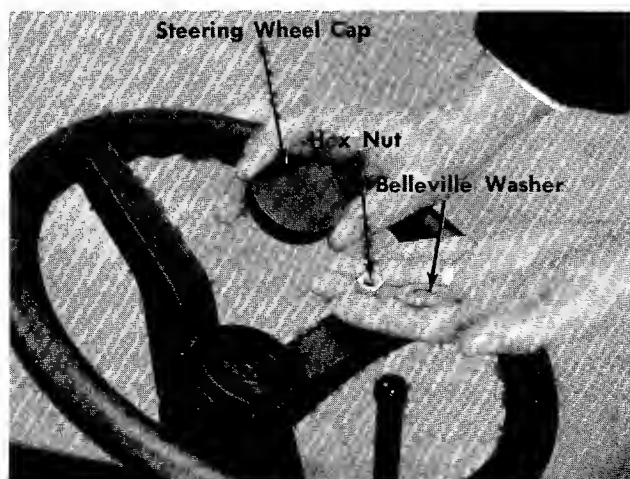

FIGURE 3. STEERING WHEEL ASSEMBLY
8. Place the steering wheel cap on by hand. See figure 3.